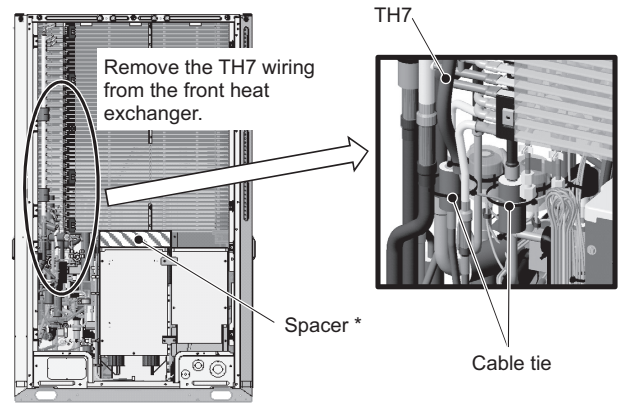

Figure 13
- (16) Remove the TH7 wiring from the front heat exchanger by cutting the cable tie. (See Figure 13.)